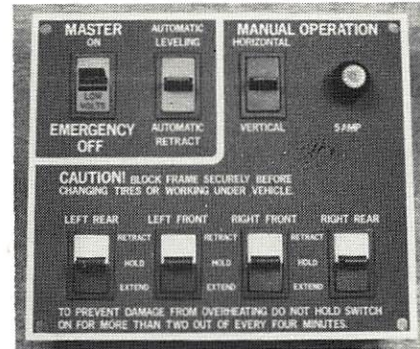

Figure 11-6. Automatic Leveling System Control Panel
4. **MASTER ON-EMERGENCY OFF Switch** (on leveling system control panel, figure 11-6) — Supplies power for the leveling system (in series with **LEVEL MASTER** switch). Turning this switch **OFF** stops the system from operating and automatically resets the microprocessor to the start position. When the **LEVEL MASTER** switch and this switch are **ON**, the red top of the switch will glow.